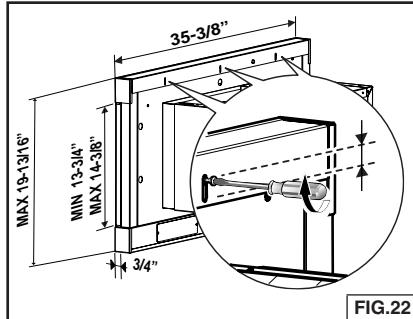

FIG.22
1. Loosen (3) screws on upper decorative trim. Fig. 22.
3. Re-tighten (3) screws on upper decorative trim.